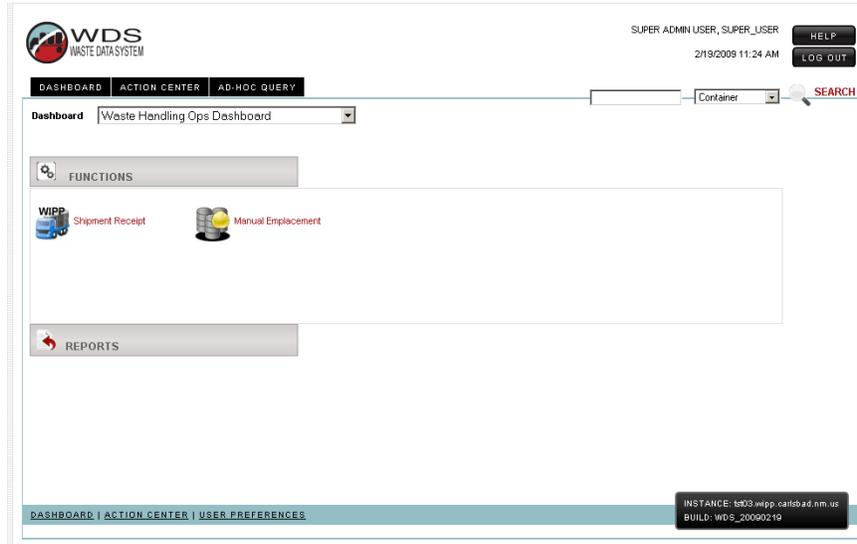

Figure 5-1 - Function Dashboard
The Functions dashboard has two buttons on the dashboard. A shipment receipt button and a manual emplacement button as shown in Figure 5-1.
5.1.1 Select Shipment Receipt as shown in Figure 5-1.
5.2.1 Select Manual Emplacement as shown in Figure 5-1.